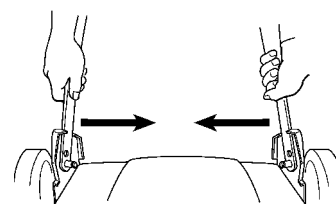

Figure 35
1. Push in the right bottom handle section until the handle slides past the stops on the handle brackets (Fig. 35).